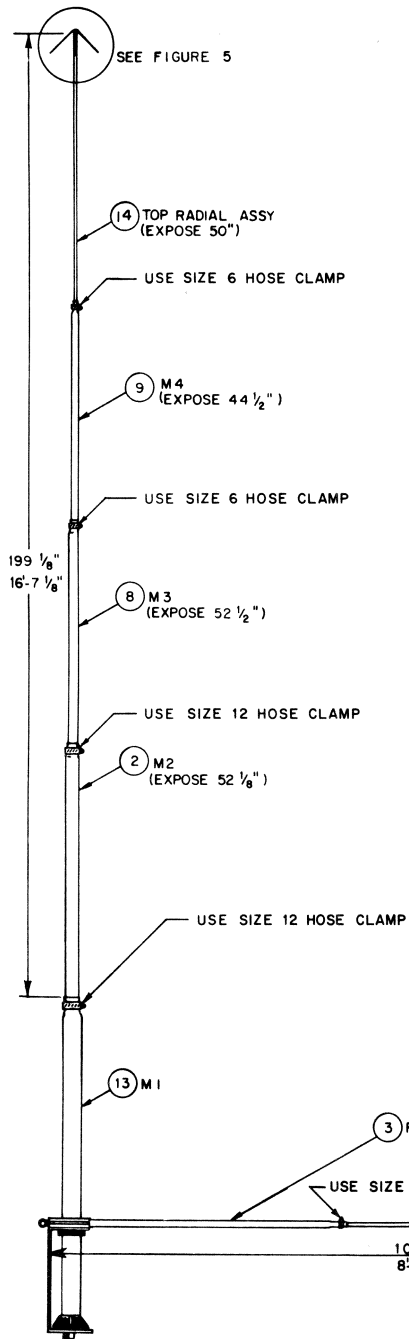

Figure 4
- ( ) Assemble the radiator tubes M2, M3, M4, and the top radial assembly, also the radial elements, by following Figure 4.